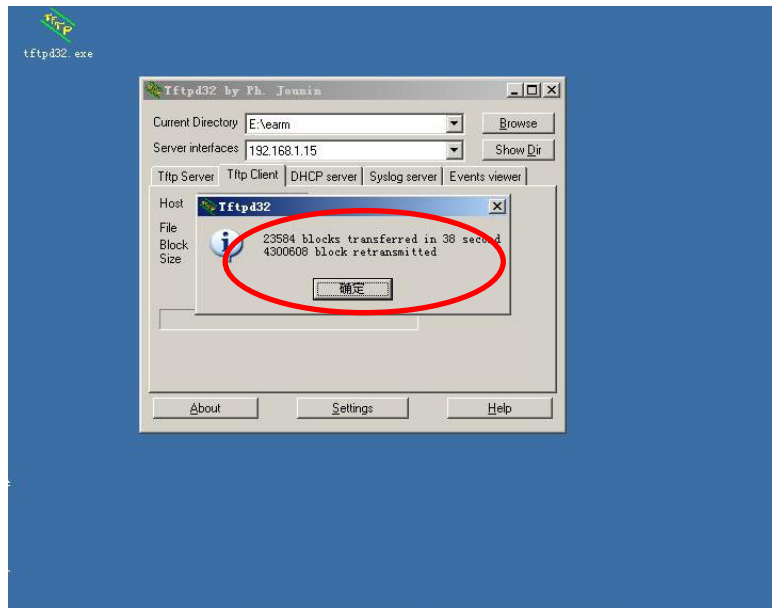

Figure 2.4
2.4 After the file is successfully transferred, it will show the message box as shown in Figure 2.4